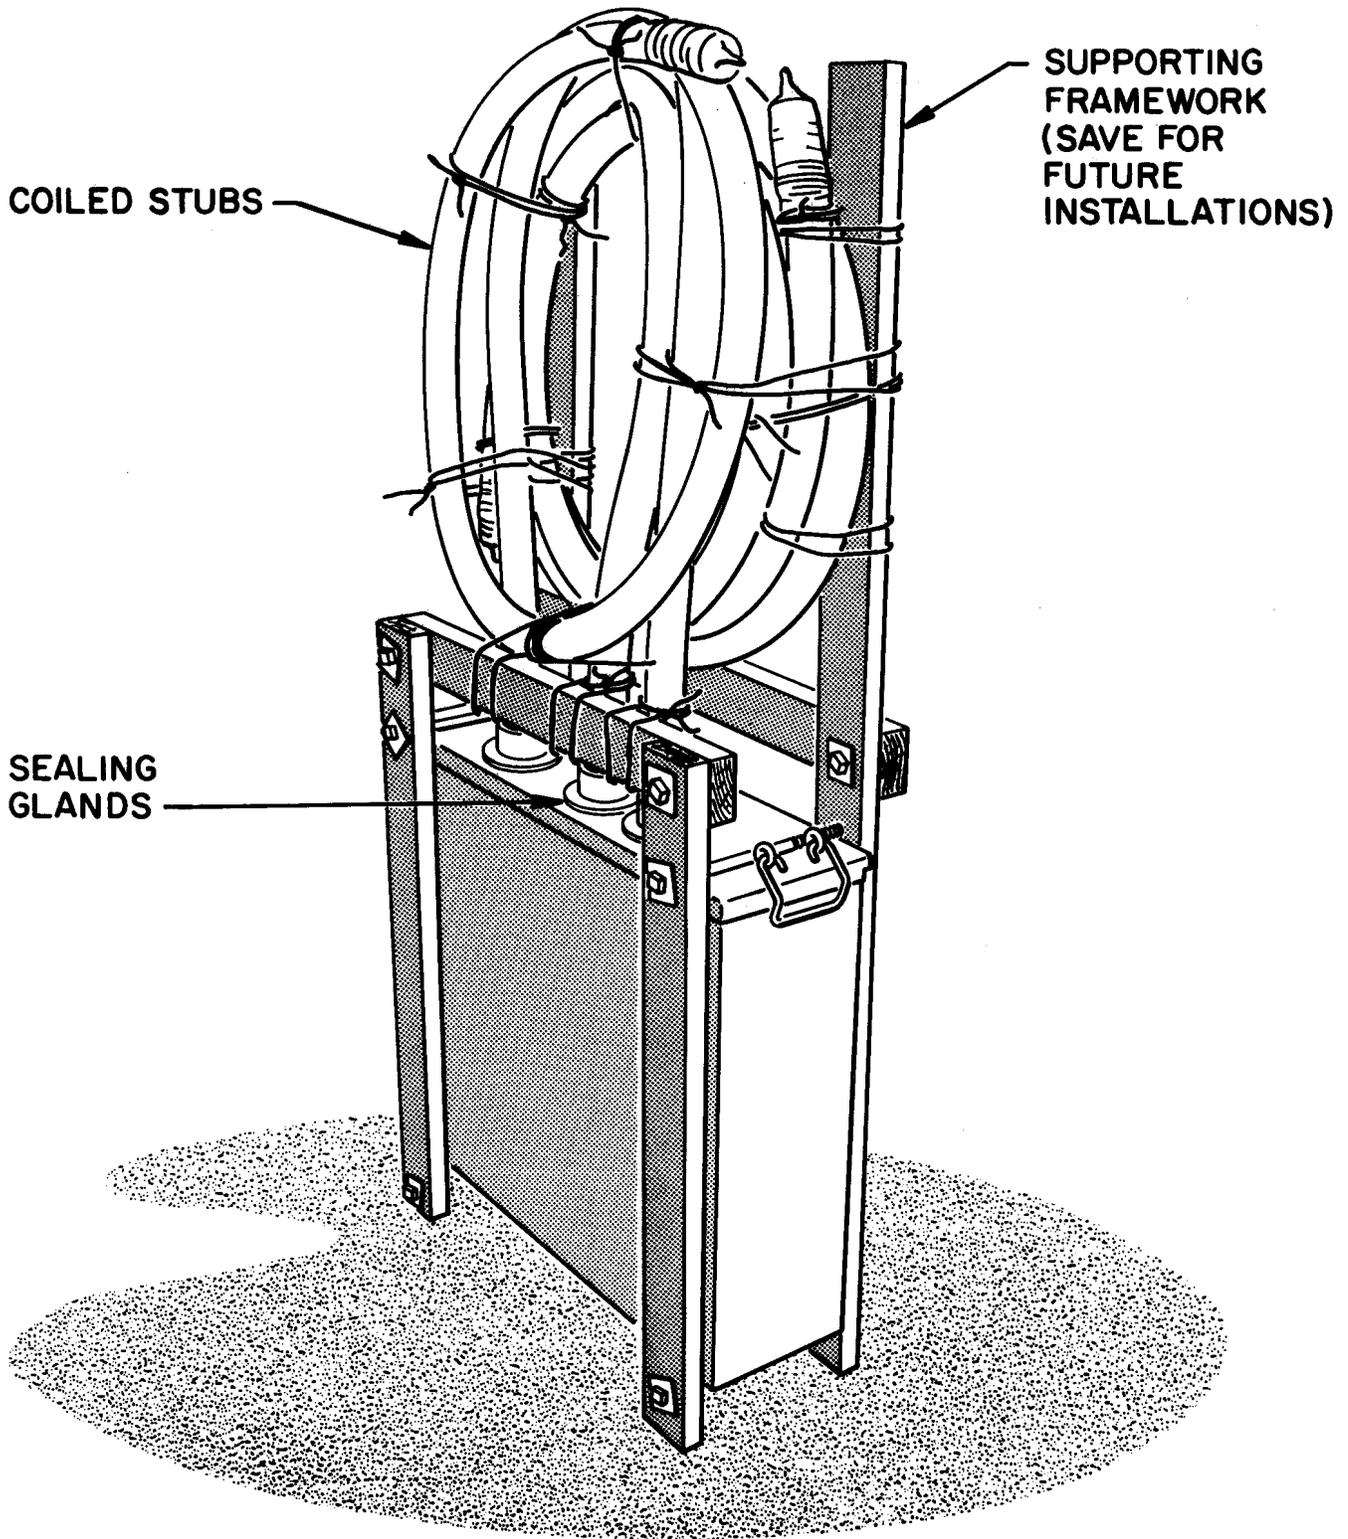

Fig. 1—A Method of Coiling and Supporting Stubs
- (c) Carefully coil and support stub cable to prevent kinking of sheath and stressing of sealing gland as shown in Fig. 1 of this addendum.